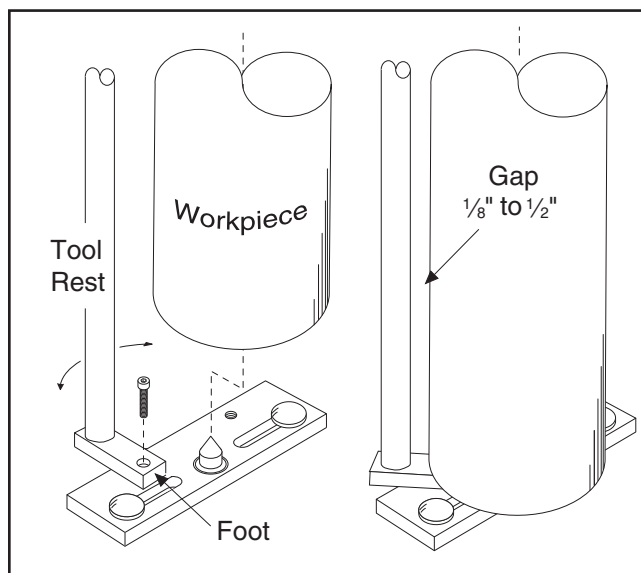

Figure 5. Tool rest installation and adjustment.
8. Retract the drill press spindle, and fasten the tool rest foot onto the base with the cap screw, as shown in **Figure 5** later. Use the workpiece to estimate where to tighten the tool rest in place to achieve a gap of $\frac{1}{8}$ " to $\frac{1}{2}$ " between the workpiece and the tool rest.